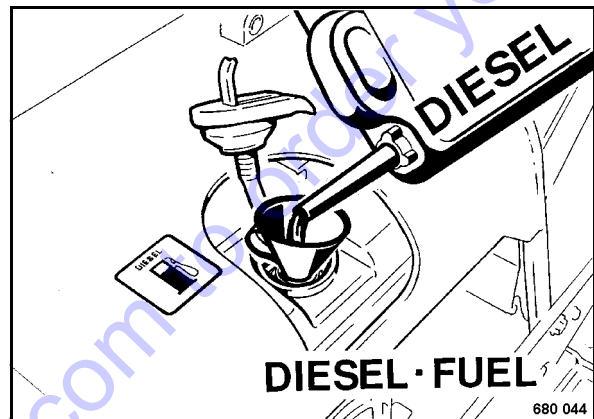

Fig. 36
- Clean the area around the fuel filler cap, remove the filler cap (Fig. 36).